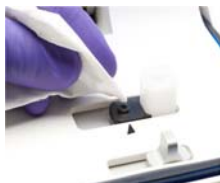

Figure 4-51: Wiping the Drop Holder with a Kimwipe
11. Lift the cover, discard the used biosensor, wipe the drop holder with a swab or Kimwipe (Figure 4-51), and rinse 3X with sample diluent—wiping each time with a swab or Kimwipe.